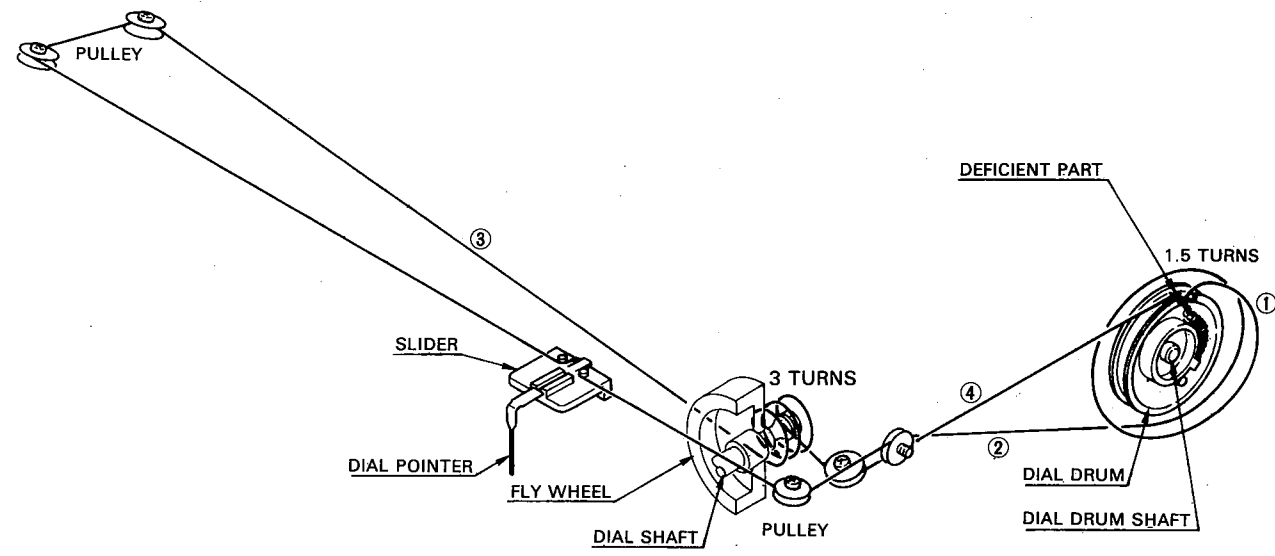

Figure 16
- 3. String the dial drum and pulleys with a new dial cord in accordance with Fig. 16 (in circled numbered order).